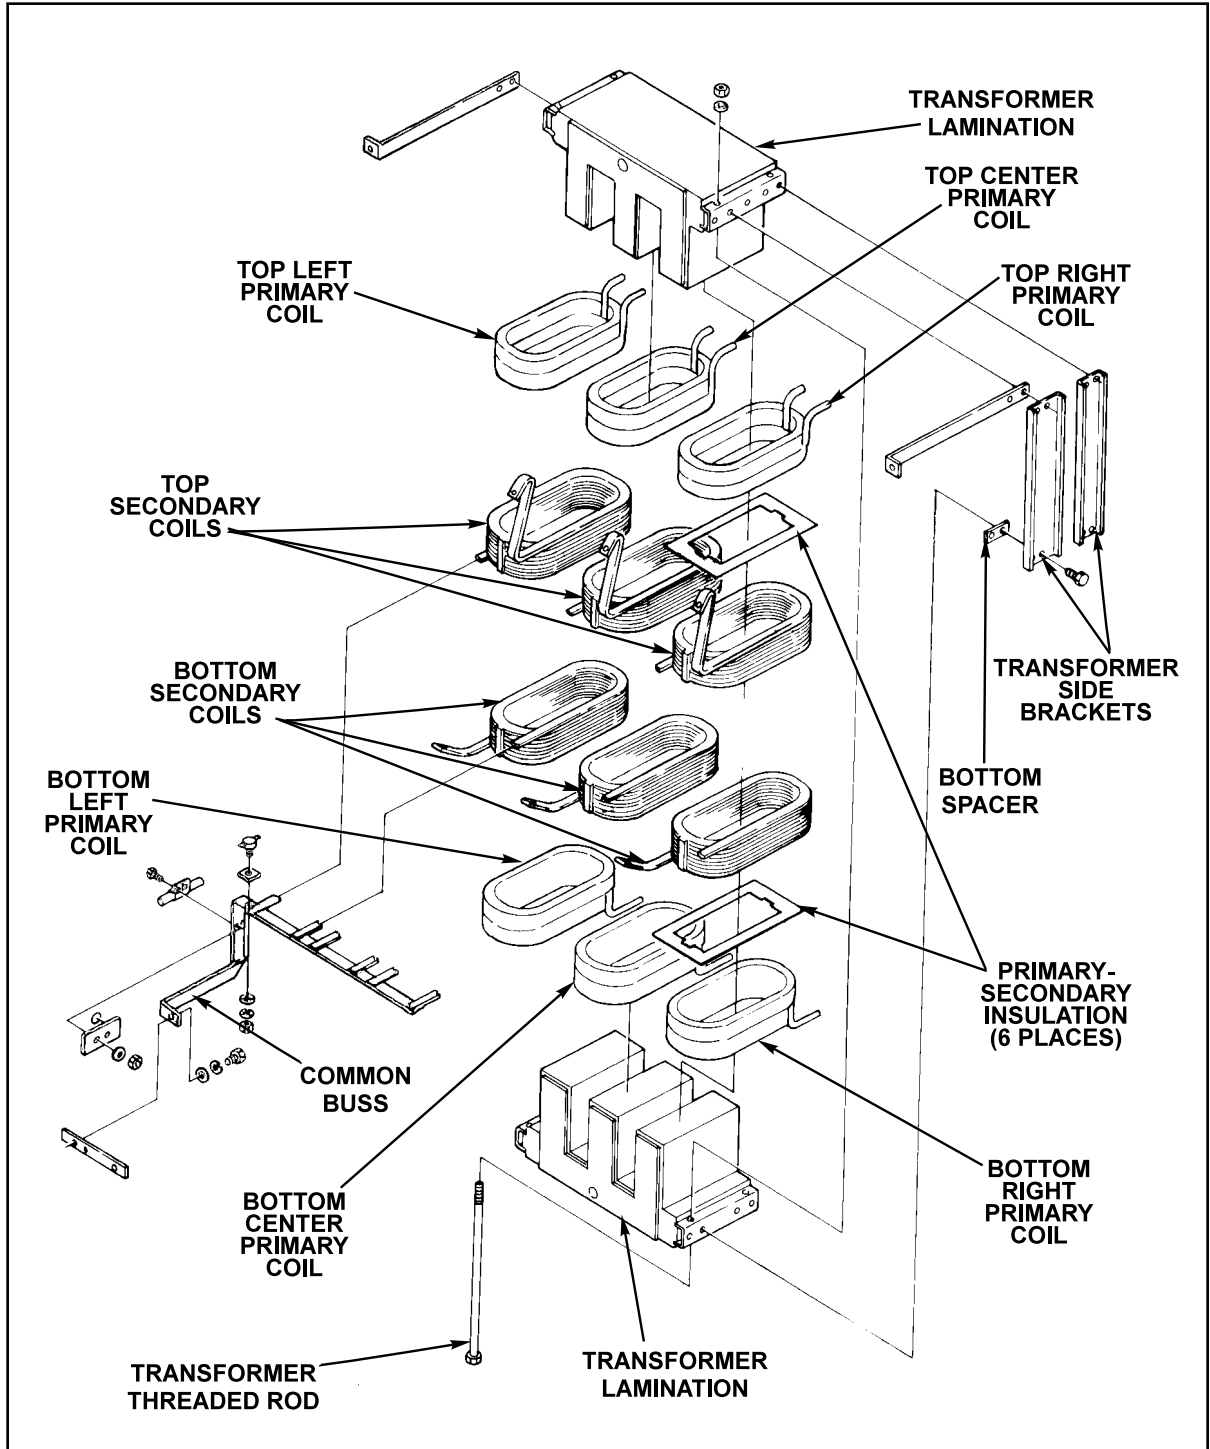

FIGURE F.26 - Main Transformer Disassembly
8. Using a 1/2" socket wrench, move 16 screws (8 on each side) from the transformer side brackets. Taking note of placement, remove the four brackets and two bottom spacers. See Figure F.26.
2. Refer to Figure F.26 for proper coil locations (top, bottom, left, right, and center) of primary and secondary coils. If secondary coils are to be replaced, it will be necessary to cut the leads and TIG weld upon reassembly.